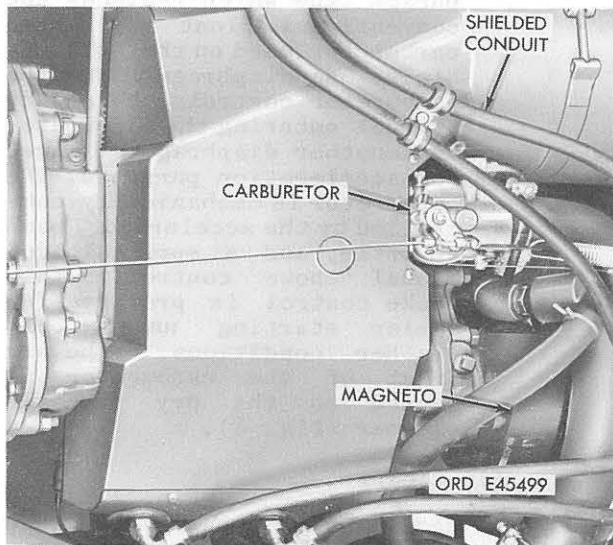
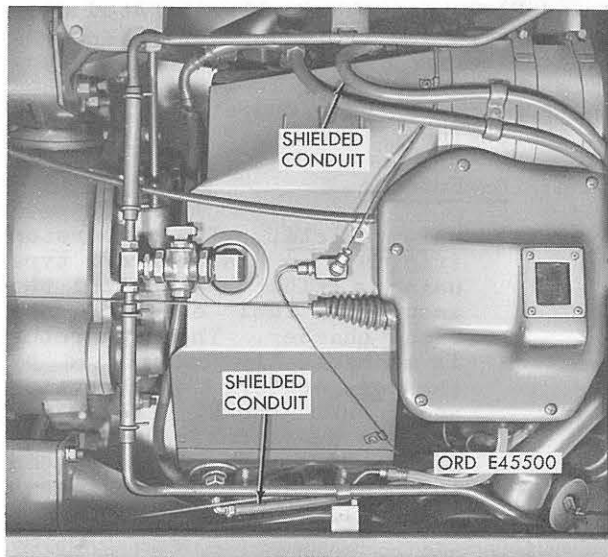
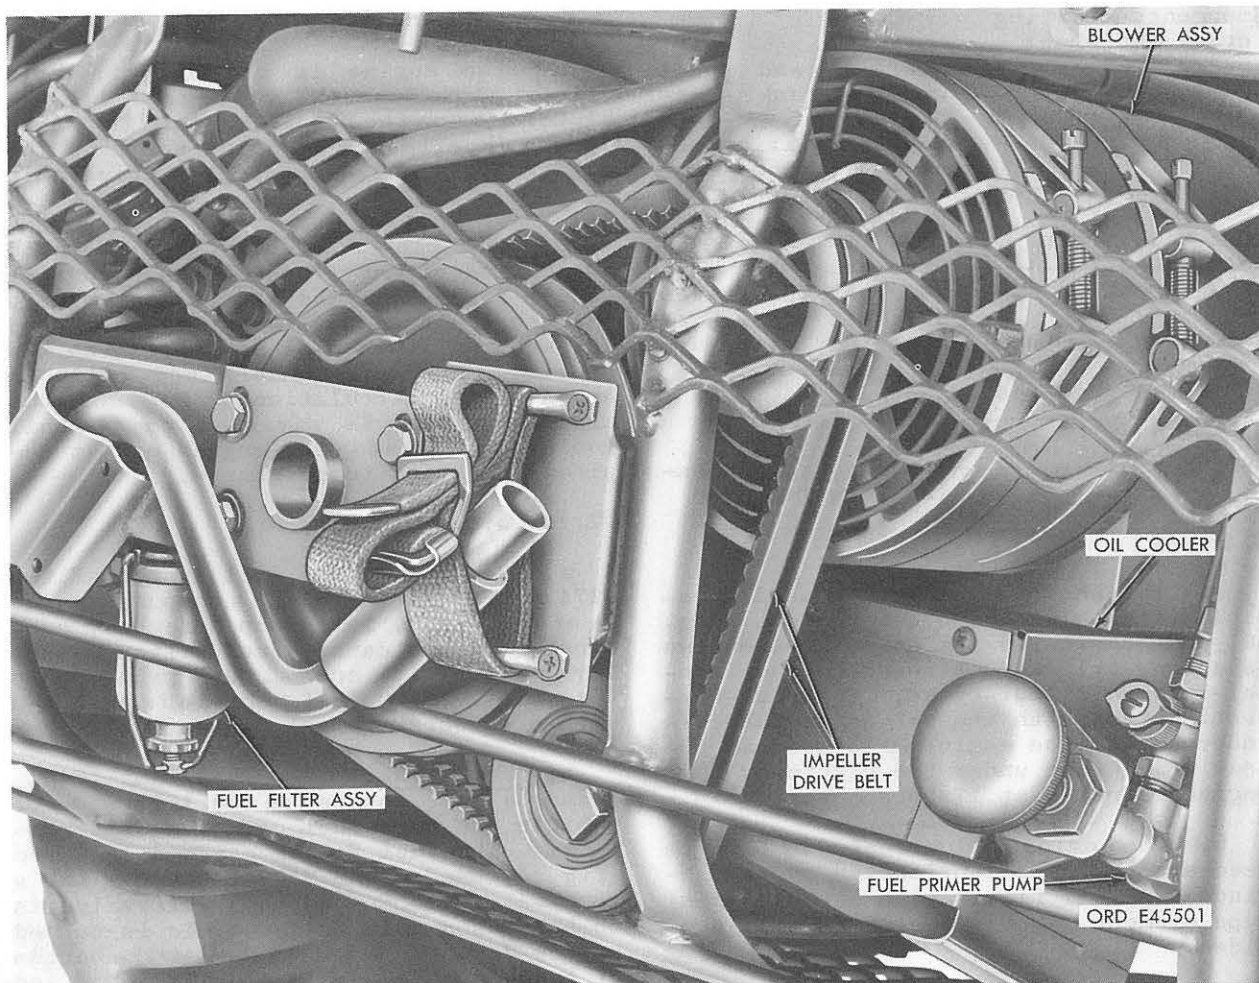

Figure 9. Top view of M274 engine with engine access cover removed.
Figure 10. Top view of M274A1 engine with engine access cover removed.
Figure 11. Blower, impeller drive belts, fuel filter assembly, and fuel primer pump locations - M274A1 vehicle.
a. The engine for both the M274 vehicle (fig. 9) and M274A1 vehicle (fig. 10) are basically the same. The engine is a four-cylinder, air-cooled, horizontal-opposed, four-cycle, internal-combustion type with the valves in the cylinder heads. The engine is located at the rear of vehicle under the platform. The engine is rated at 17 horsepower.
a. The engine is cooled by a belt driven blower assembly (fig. 11). The blower used on the M274A1 vehicle is driven by two impeller drive belts while on the M274 vehicle only one impeller drive belt is used.
b. The blower circulates air around the cylinders, cylinder heads, and oil cooler (fig. 11). The air is confined in the metal shroud and covers (figs. 9 and 10) keeping it in close contact with the cooling fins on cylinders and cylinder heads during circulation. Part of the circulated air is diverted to the oil cooler (fig. 11) to keep engine oil at desired operating temperatures.
a. General. The fuel system of the M274 and M274A1 vehicles is composed mainly of fuel tank, fuel pump assembly, carburetor, air cleaner, fuel filter assembly (fig. 11), and a fuel primer pump (fig. 11). The M274A1 vehicle is equipped with a carburetor fuel return tube.
- (1) M274 vehicle. The carburetor (fig. 9) is a side-draft type using a float to control the amount of fuel entering the float chamber. The carburetor is mechanically controlled by the accelerator, hand throttle, and manual choke. For water fording operations, the air inlet of the carburetor is vented to the oil bath type air cleaner (fig. 7).
f. Fuel Filter Assembly. Both M274 and M274A1 vehicles are equipped with a fuel filter assembly (fig. 11) located between the fuel tank and fuel pump. This filter serves as a final filter before fuel is pumped into the carburetor.
g. Fuel Primer Pump. Both M274 and M274A1 vehicles are equipped with a hand-operated fuel primer pump. The pump (fig. 11) used on the M274A1 vehicle is located at the lower right side of the engine and attached to the engine oil cooler. The pump used on the M274 vehicle is mounted underneath the platform above the engine. The purpose of the pump is to provide a means for priming the engine with fuel for cold weather starting. Fuel is drawn from the fuel tank (fig. 8) and forced into the intake manifold by the pump.